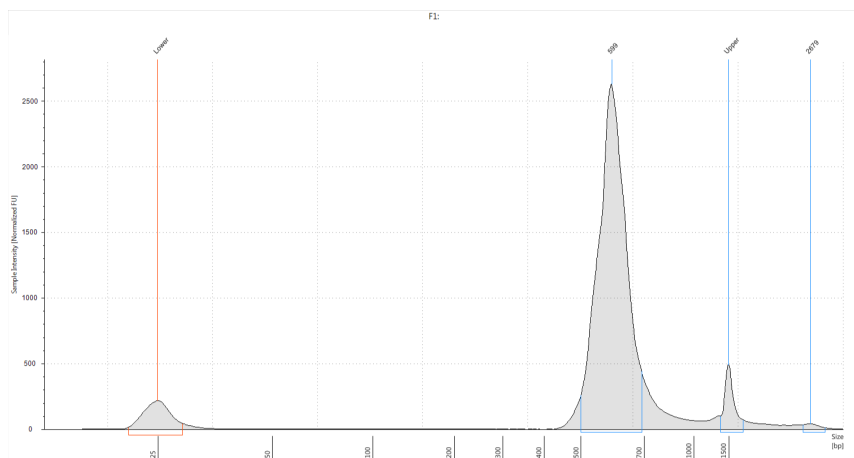
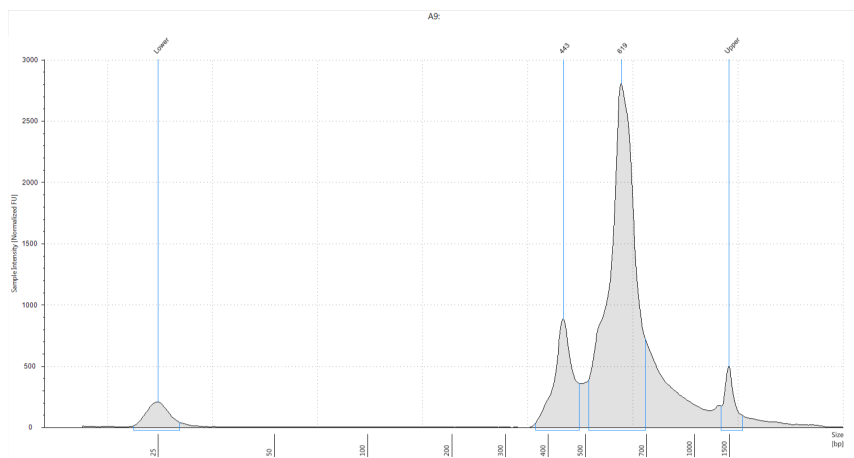

Figure 2. Bioanalyzer trace of library prepared with QIAseq 16S/ITS Screening Panel or QIAseq 16S/ITS Region Panel.
Figure 3. Bioanalyzer trace of library prepared with QIAseq 16S/ITS Smart Control (as DNA sample) and the QIAseq 16S/ITS Screening Panel.
37. Analyze 1 µL of the QIAseq 16S/ITS Screening Panel or QIAseq 16S/ITS Region Panel sequencing library on an Agilent Bioanalyzer or TapeStation using a high-sensitivity DNA chip according to the manufacturer's instructions. A typical QIAseq 16S/ITS Screening Panel or QIAseq 16S/ITS Region Panel sequencing library is shown in Figure 2. Figure 3 shows a library that has been constructed from the QIAseq 16S/ITS Smart Control. These libraries have an extra ~440 base pair peak present as this represents the ITS amplicon, which is at equal abundance to the other 16S amplicons.